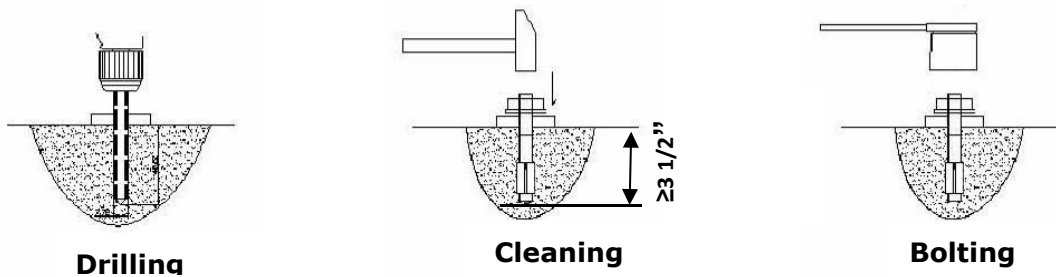

Fig.17
2. Use the prescribed rotary hammer drill, and drill all the anchor holes and install the anchor bolts. Then tighten the anchor bolts (See Fig. 17).
1. Connect the cables follow step **a** to **f**. (See Fig. 17).